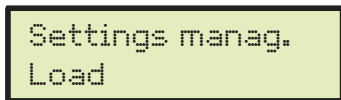

Fig. 73
- Select Load (Fig. 73) and press **OK**;